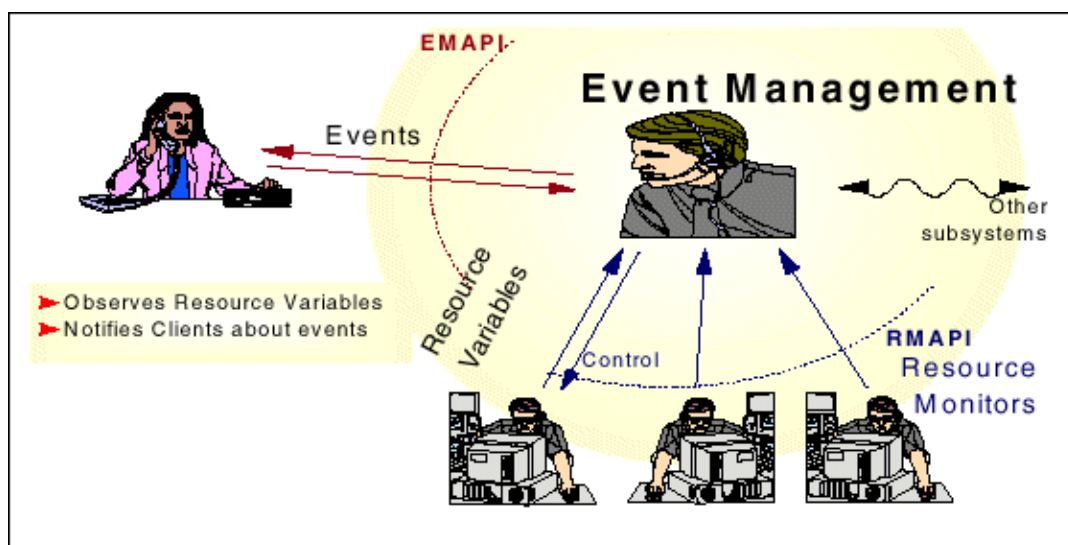

Figure 4-18 Event Management functional flow
Event Management (EM) is the top level of the RSCT subsystems, it is a client of Group Services. It provides a monitoring service of client requested system resources, such as file systems, processes, CPUs, and notifies those clients when certain conditions are met. It runs as a daemon, haemd. The functional flow is shown in Figure 4-18.